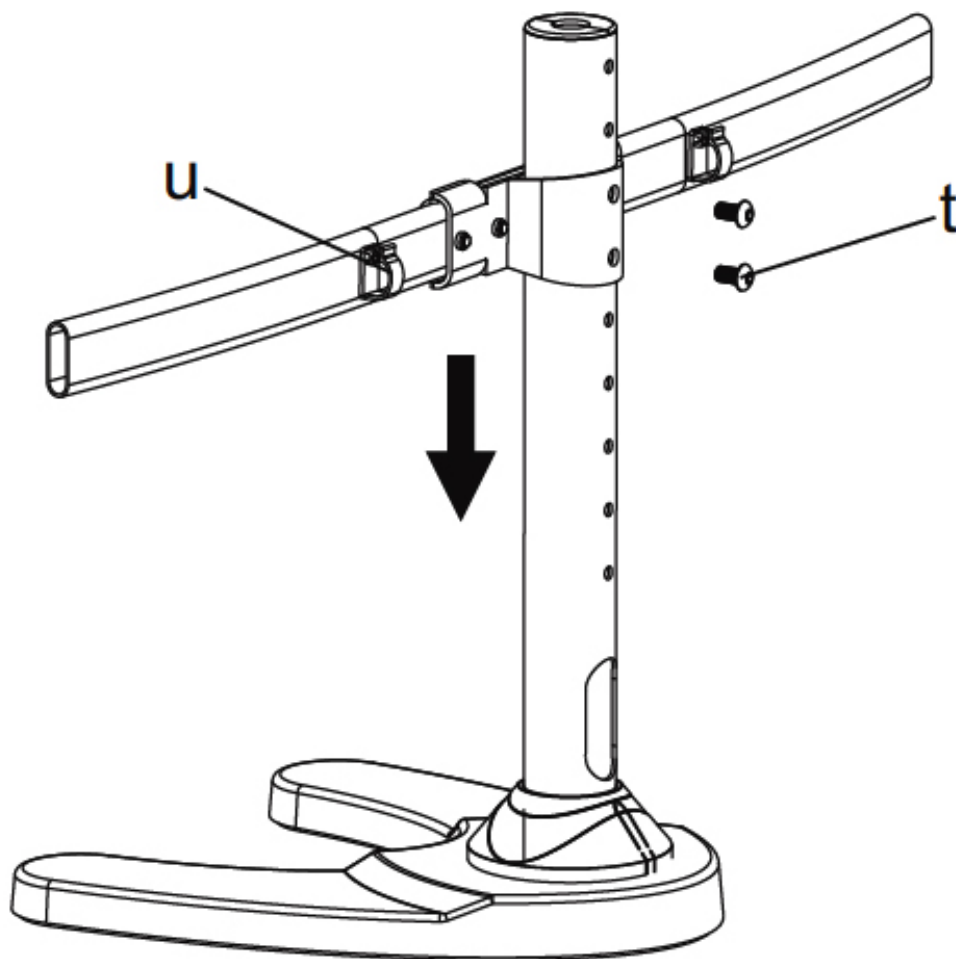

Figure 2b
2. Mount the Arm Assembly to the tube support, fasten it using **M8x10 Bolts (t)** with **Allen Key (o)** and insert the **Wire Clips (u)** as shown in **Figure 2b**. Then continue to **Step 3**.